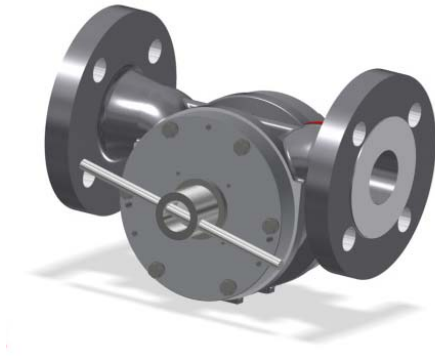

Figure 21 – Loosening the nut of the magnet cap
1. Remove the magnet cap as shown in Figure 21, by loosening the nut using the magnet nut wrench (VAF part number 0379-0199).